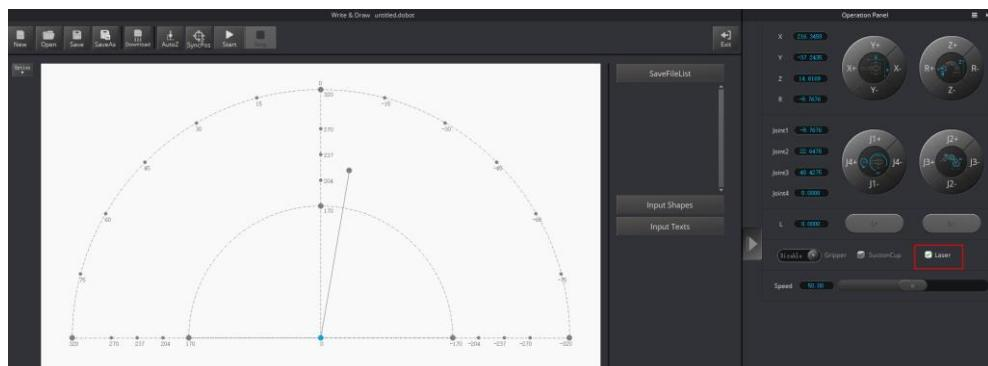

Figure 5.67 Turn on the laser
- Step 2** Click  to display the **Operation Panel**, and then select **Laser** to turn on the laser, as shown in Figure 5.67. In this case, the laser gives out a laser beam.